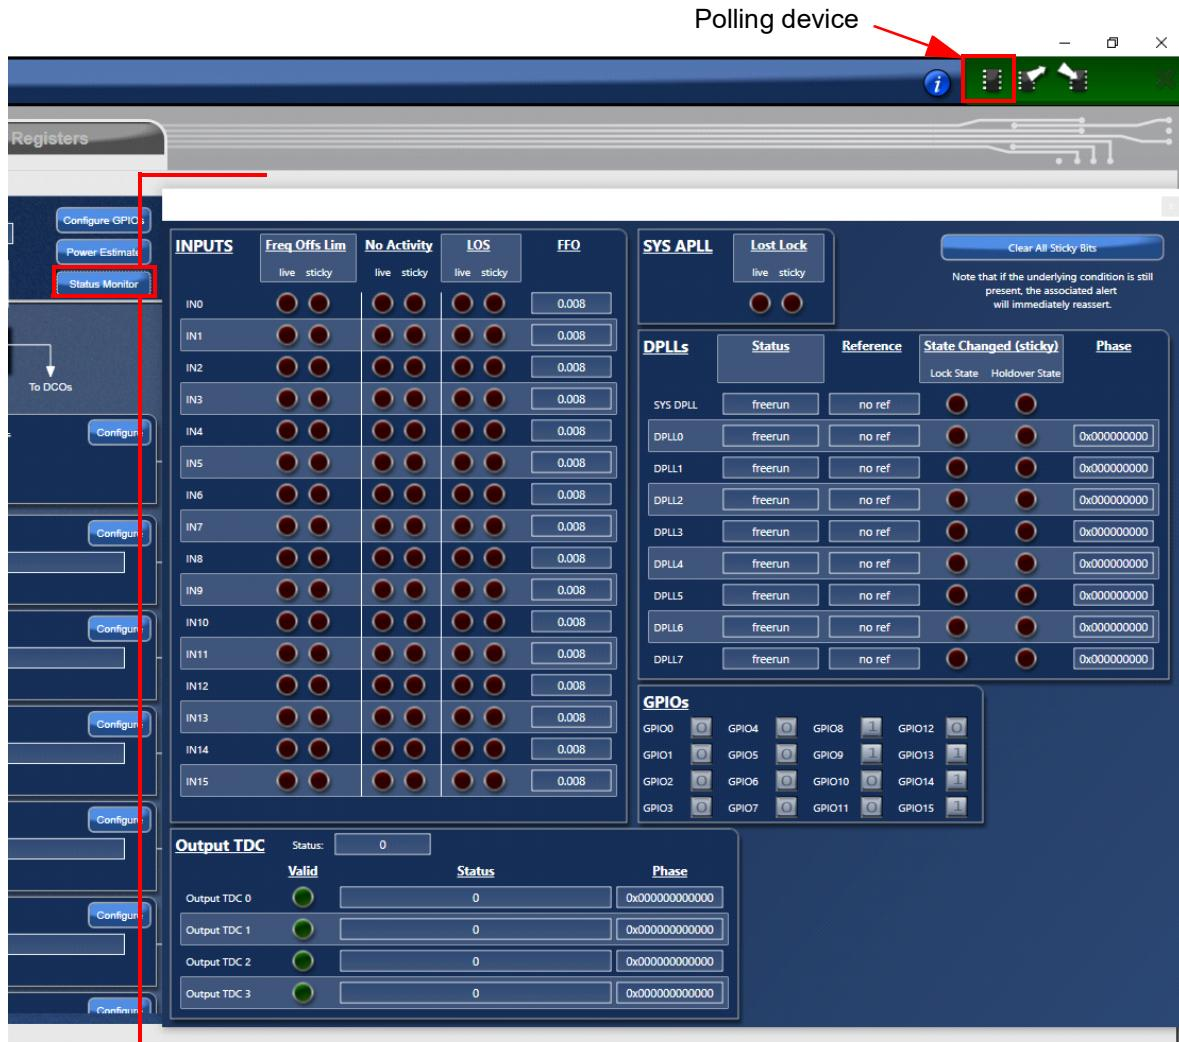

Figure 20. Show Monitors Window
- Status Monitor button only appears when GUI is connected to the device (see Figure 20)
- Device must be polled to show monitor status (see Figure 20); auto-pollling is possible but is not recommended due to the slow speed of the GUI